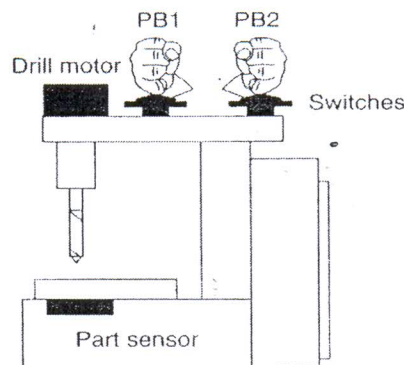

Figure 1: Sketch of Drilling Process
- (a) **Figure 1** shows a sketch of part drilling station where a simple drilling operation requires the drill press to turn on only if there is a part present and the operator has one hand on each of the start switches. This precaution will ensure that the operator's hands are not in the way of the drill.